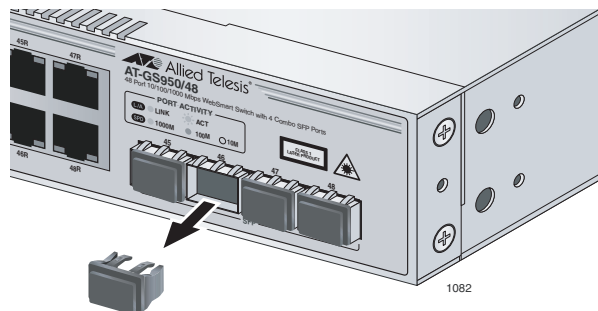

Figure 9. Removing the Dust Plug from the SFP Slot
2. Remove the dust plug from the SFP slot, as shown in Figure 9.